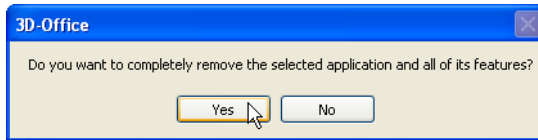

Figure 1-4. Remove 3D-Office?
2. Click **Yes** at the confirmation (Figure 1-4).